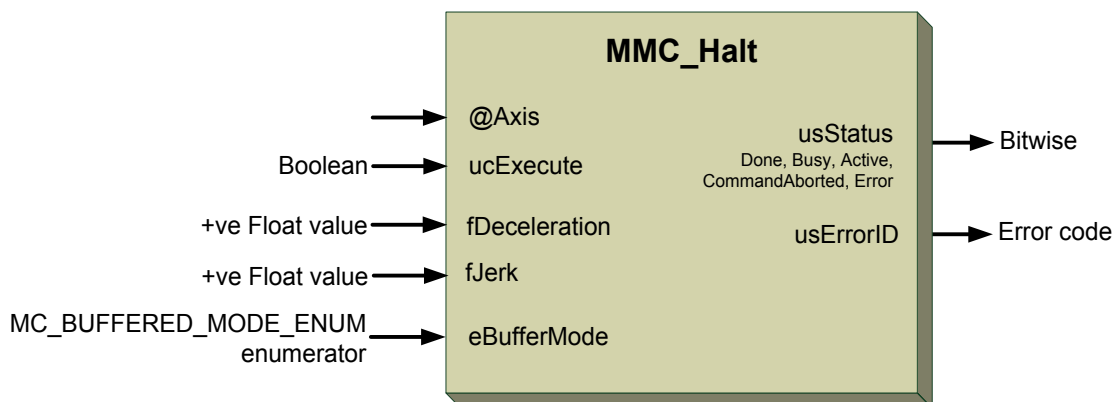

Figure 5-7: MMC\_Halt function block
**Figure 5-7** describes the function block for MMC\_Halt as applied within the IEC 61131 programming.